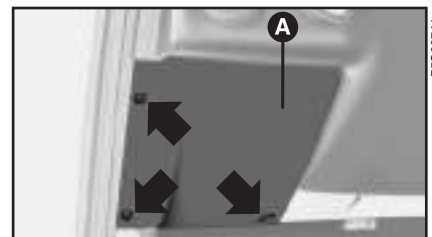

fig. 29
2) remove guard **A**-fig. 29. When you replace the guard, make sure it fits properly under the door weather-stripping.